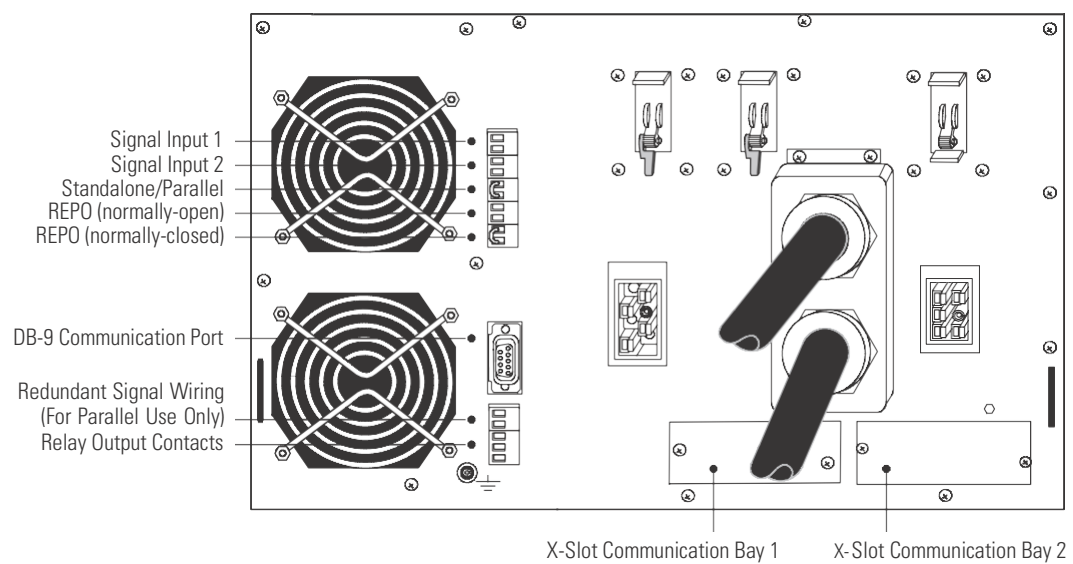
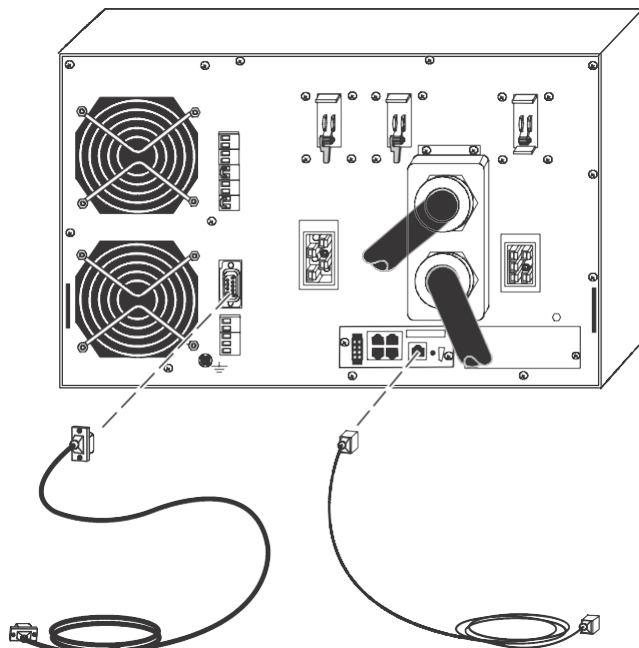

Figure 75. Communication Options and Control Terminals (Standalone UPS shown)
Figure 76. Installing Communication Cables
1. Install the appropriate X-Slot card and/or necessary cable(s) (see Figure 75 and Figure 76).